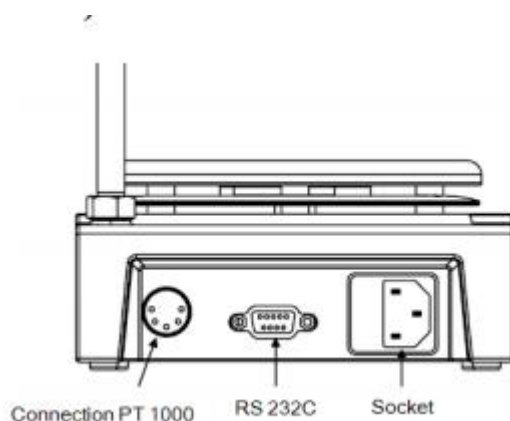

Figure 8
- The functions of the interface lines between laboratory instrument and automation system are selected from the specified signals of the EIA-standard RS232C, corresponding with DIN 66020 Part 1. The allotment of the bushing can be taken from Figure 8.